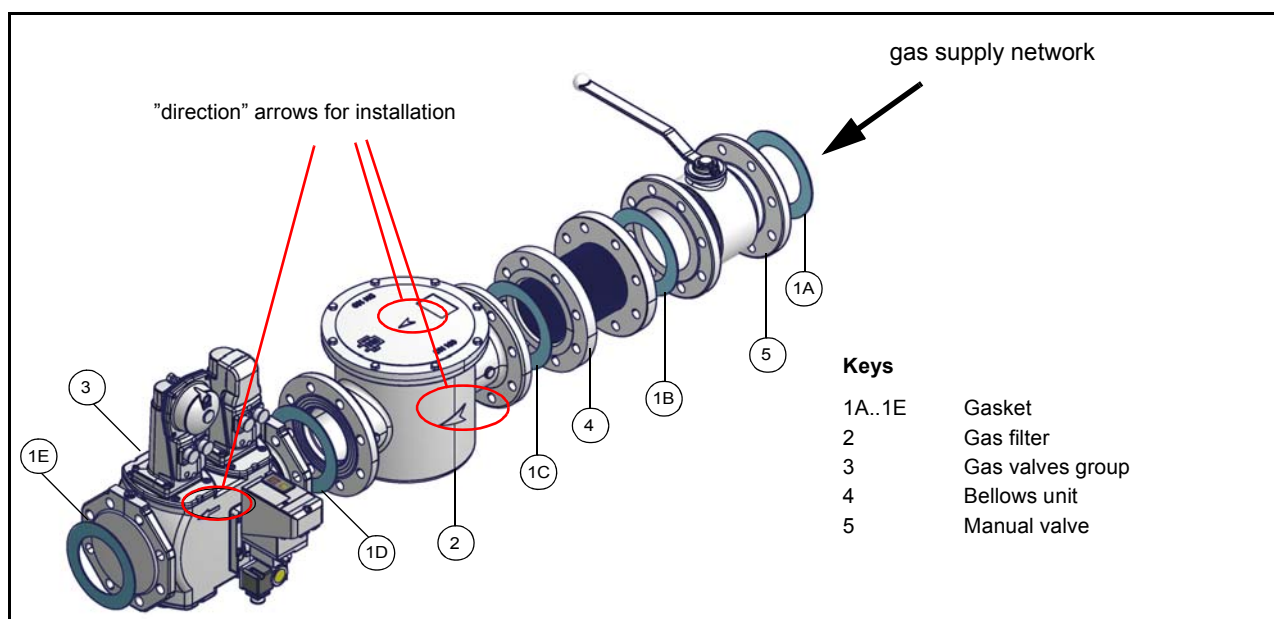

Fig. 4 - Example of gas train
- 1-b) in case of flanged joints: place a gasket (no. 1A..1E - Fig. 4) between the elements
**ATTENTION:** once the gas train is mounted according to the diagram on Fig. 4, the gas proving test must be performed, according to the procedure set by the laws in force.